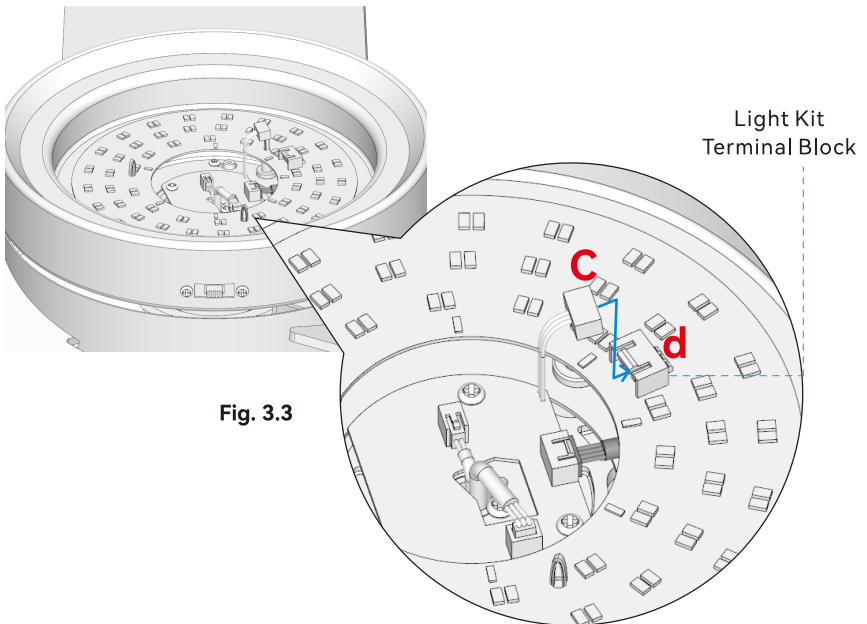

Fig. 3.3
3.5 Insert the wire plug (c) into the light kit terminal block (d) on the light kit, as shown in Fig. 3.3.